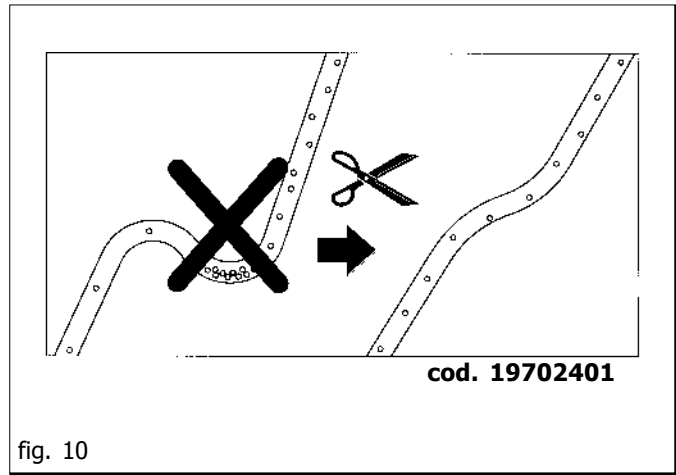

fig. 10
- 3) The machine in the correct operating position, check the length of the seed descent pipes: while the seeder is operating, it is important to avoid folds and bends in the pipes which can lead to their breaking. Adapt them, if necessary, by varying the length as shown in figure 10.
- 5) Check the length of the seed descent pipes: while the seeder is operating, it is important to avoid folds and bends in the pipes which can lead to their breaking. Adapt them, if necessary, by varying the length as shown in figure 10.